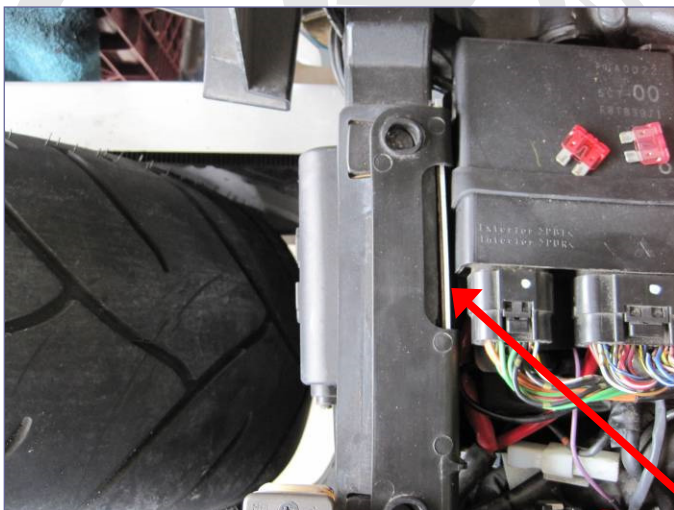

Fig.18
- Be sure to position the cruise servo all the way up so that the mounting bracket is flush with the top and as far to the left side as possible depending on your application. The Roadliner/Stratoliner position will be slightly more centered to allow alignment to the fender relief hole.(Fig.18, 19, 20)